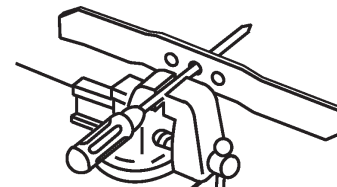

Figure 23
1. Check the balance of the blade by placing the center hole of the blade over a nail or a screwdriver shank clamped horizontally in a vise (Fig. 23).